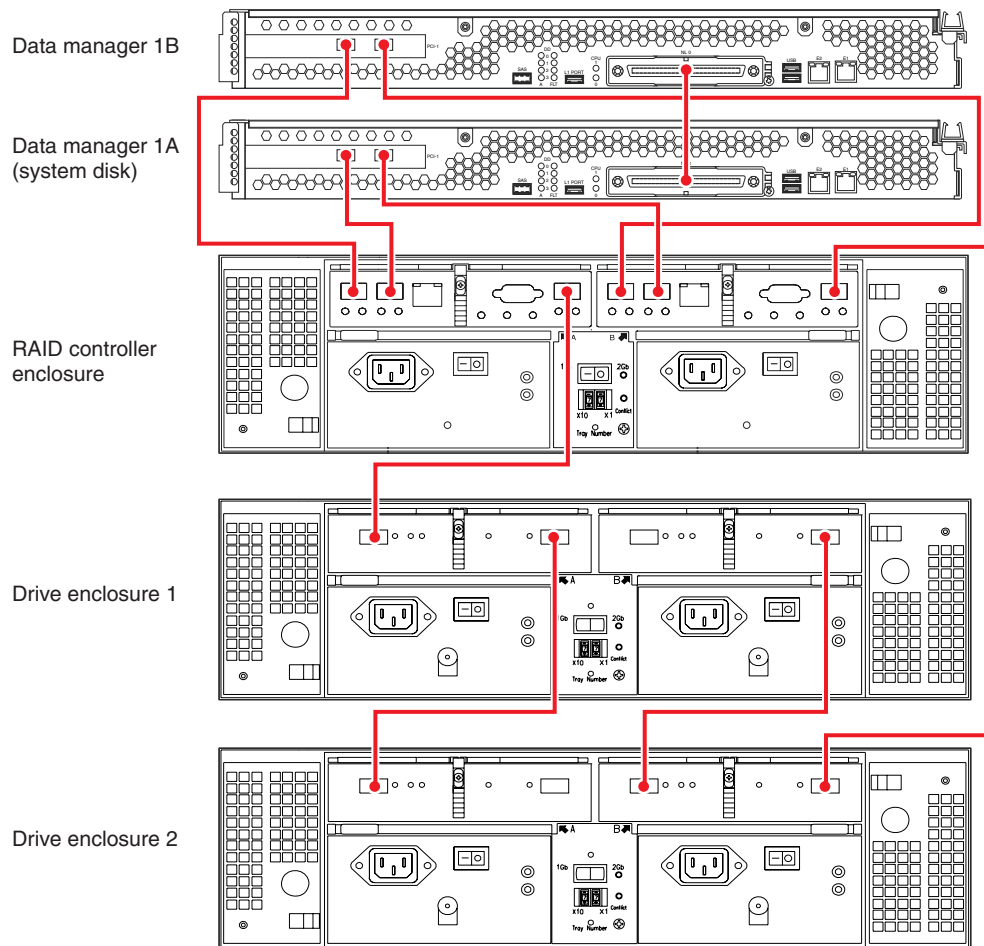

Figure 1-13 Two-Module Data Manager, Two Fibre Channel Cards, Dual-Controller RAID and Two Drive Expansion Enclosures
Use the following steps and Figure 1-13 to properly cable a two-module, two-Fibre Channel controller data manager to a dual-controller RAID enclosure with two disk expansion enclosures.
1. Connect Data Manager 1A's Fibre Channel PCI card port A (blue label [1A]) to RAID controller B's host port 2 (blue label [1A]), see Figure 1-13.